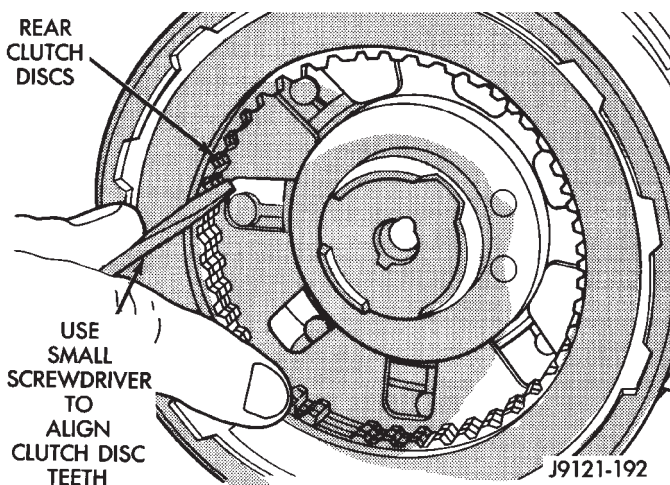

Fig. 172 Aligning Rear Clutch Disc Lugs
(23) Align drive teeth on rear clutch discs with small screwdriver (Fig. 172). This makes installation on front planetary easier.
(24) Raise front end of transmission upward as far as possible and support case with wood blocks. Front/rear clutch and oil pump assemblies are easier to